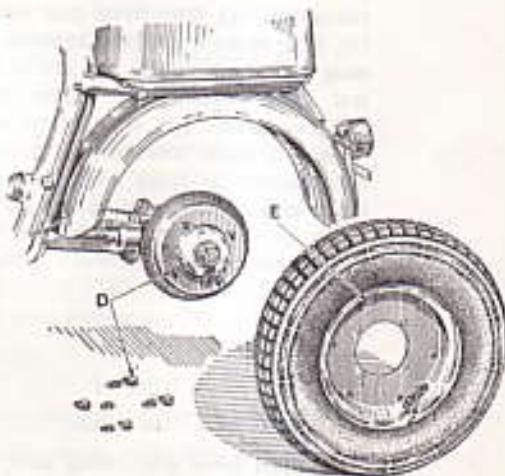

Fig. 6
To detach the rims from the hubs (for both front and rear wheel) loosen the four nuts (D) located on the air valve side (fig. 6); to dismantle the tyres, first remove wheels, then unscrew the six nuts E holding the two rim halves together, at the opposite side of the air valve. *Perform this operation after deflating the tyres.*